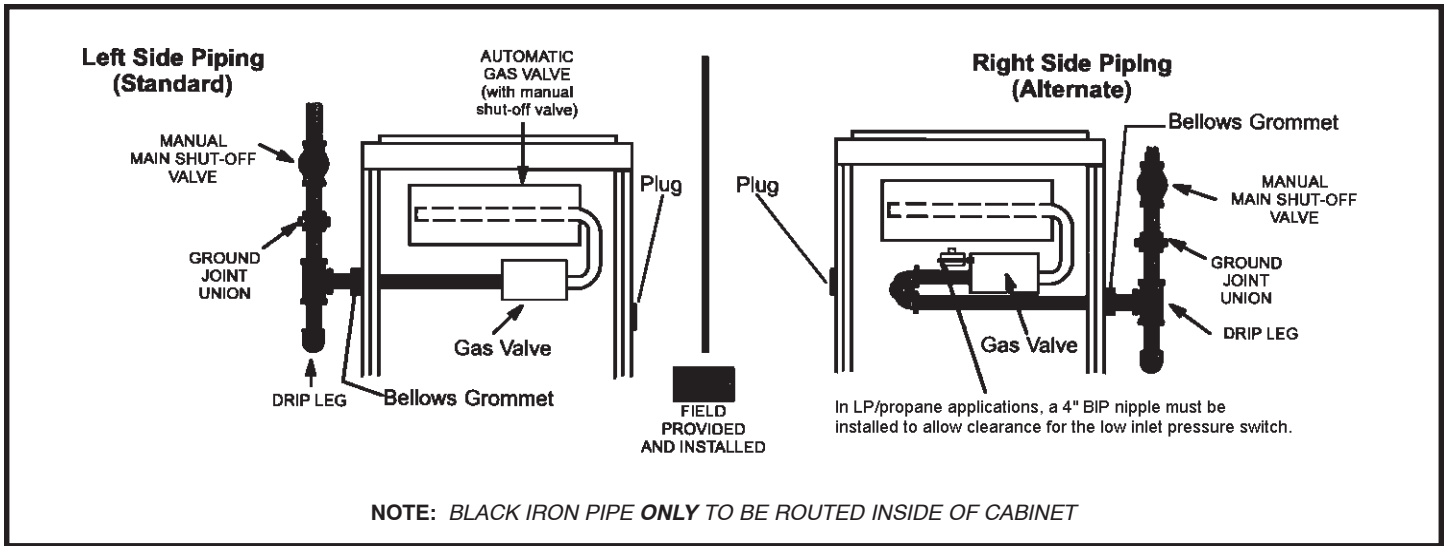

Figure 47
1. Gas piping may be routed into the unit through either the left or right hand side. Supply piping enters into the gas valve from the side of the valve as shown in Figure 47. Move Bellows grommet to side which gas line enters. Ensure opposite gas line hole is plugged with supplied plug.
The gas valve requires a low inlet pressure switch in LP/propane applications. A 4" BIP nipple must be installed in the gas valve inlet when right-side gas entry is used in LP/propane applications. See Figure 47.
3. Gas piping must not run in or through air ducts, clothes chutes, chimneys or gas vents, dumb waiters or elevator shafts. Center gas line through piping hole. Gas line should not touch side of unit. See Figures 47 and 48.